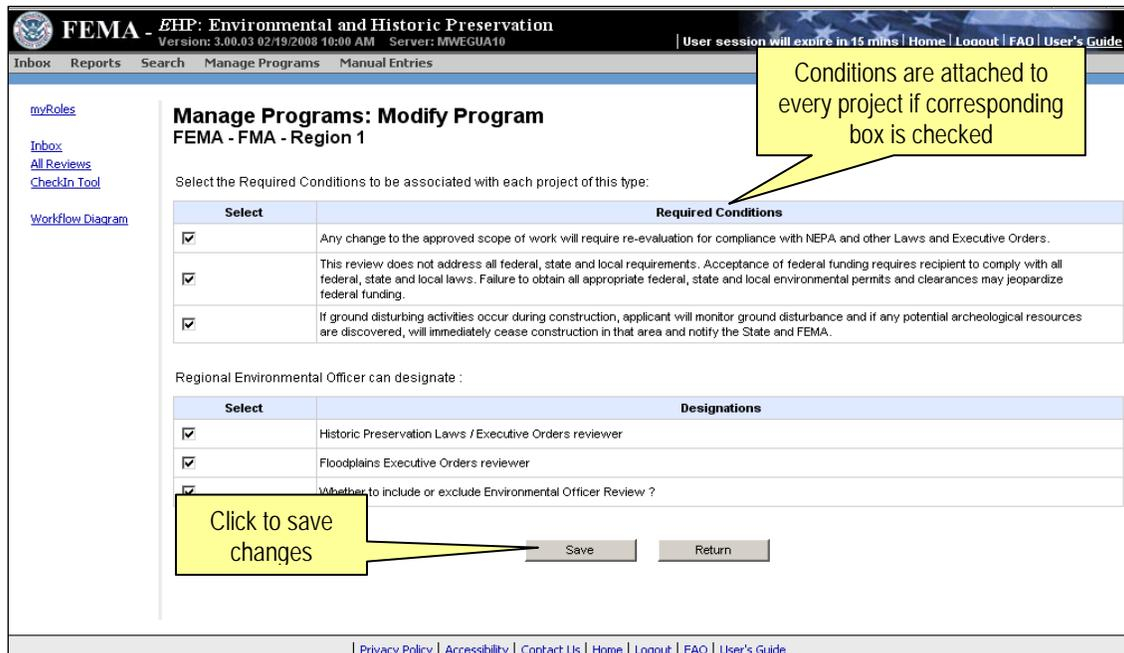

Figure 6.6: Manage Programs: View Program
- On the *Manage Program: View Program* screen, select or de-select required conditions (Figure 6.6)